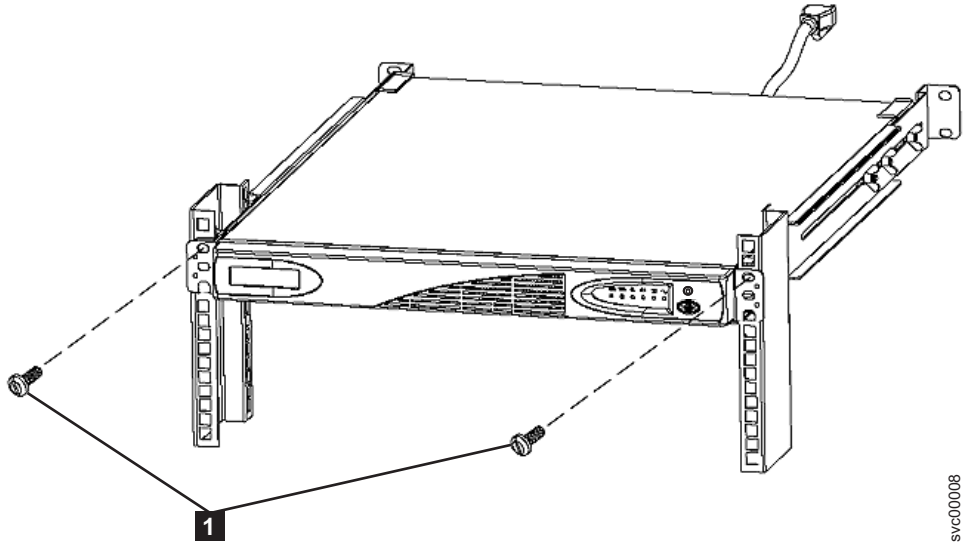

Figure 28. Mounting screws for the 2145-1U uninterruptible power supply
2. At the front of the 2145-1U uninterruptible power supply, install the two mounting screws (**1** in Figure 28 on page 46).